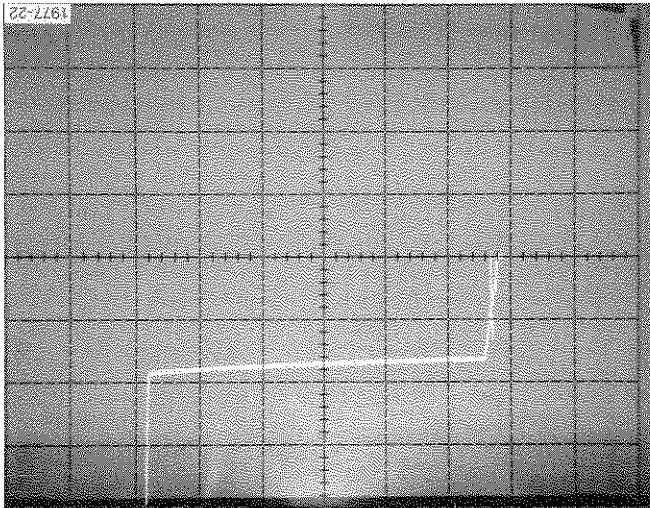

Fig. C-4. - Input bias current display.
- c. Check that the vertical display is  $\leq 3.75$  divisions from the graticule center ( $\leq 500$  nA, see Fig. C-4).